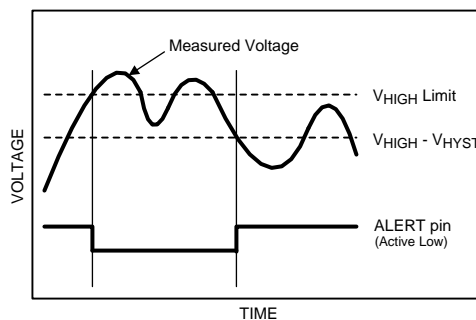

Figure 27. Alert condition cleared when measured voltage crosses $V_{HIGH} - V_{HYST}$
The ALERT function is an "out-of-range" indicator. At the end of every conversion, the measured voltage is compared to the values in the V_{HIGH} and V_{LOW} registers. If the measured voltage exceeds the value stored in V_{HIGH} or falls below the value stored in V_{LOW} , an alert condition occurs. The Alert condition is indicated in up to three places. First, the alert condition always causes either or both of the alert flags in the Alert Status register to go high. If the measured voltage exceeds the V_{HIGH} limit, the Over Range Alert Flag is set. If the measured voltage falls below the V_{LOW} limit, the Under Range Alert Flag is set. Second, if the Alert Flag Enable bit is set in the Configuration register, the alert condition also sets the MSB of the Conversion Result register. Third, if the Alert Pin Enable bit is set in the Configuration register, the ALERT output becomes active (see Figure 27). The ALERT output (ADC121C021 only) can be configured as an active high or active low output via the Polarity bit in the Configuration register. If the Polarity bit is cleared, the ALERT output is configured as active low. If the Polarity bit is set, the ALERT output is configured as active high.
2. The measured voltage goes below the programmed V_{HIGH} limit minus the programmed V_{HYST} value and the Alert Hold bit is cleared in the Configuration register. (see Figure 27). If the Alert Hold bit is set, the alert condition persists and only clears when a one is written to the Over Range Alert Flag bit.